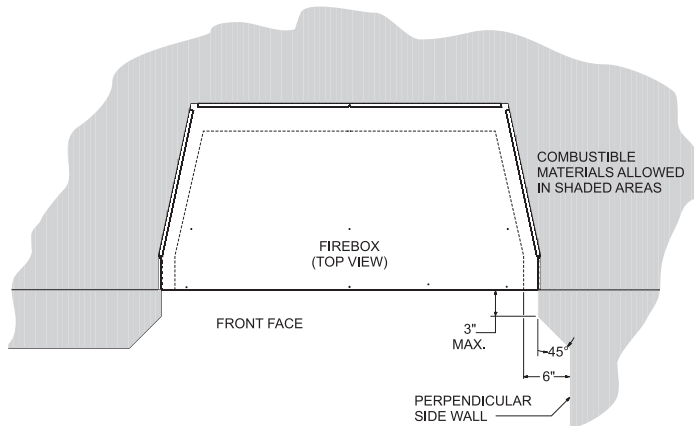

Figure 1
**Sidewall Clearances:** The clearance from the inside of the firebox to perpendicular combustible side wall should not be less than 6 inches. See Figure 1.